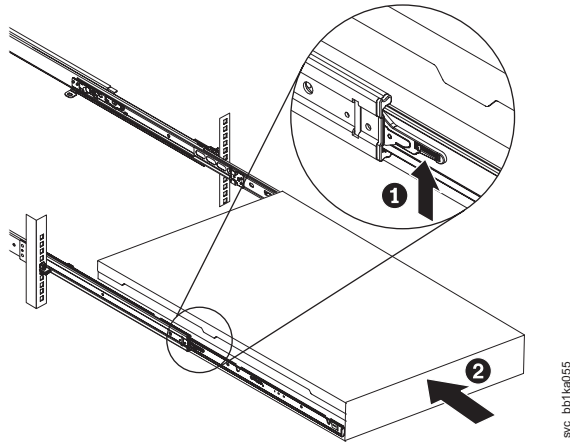

Figure 111. Raising the SAN Volume Controller 2145-CF8 locking levers of the slide rails of the rack
12. Lift the locking levers ( **1** in Figure 111 on page 109) on the slide rails and push the server **2** all the way into the rack until it clicks into place.